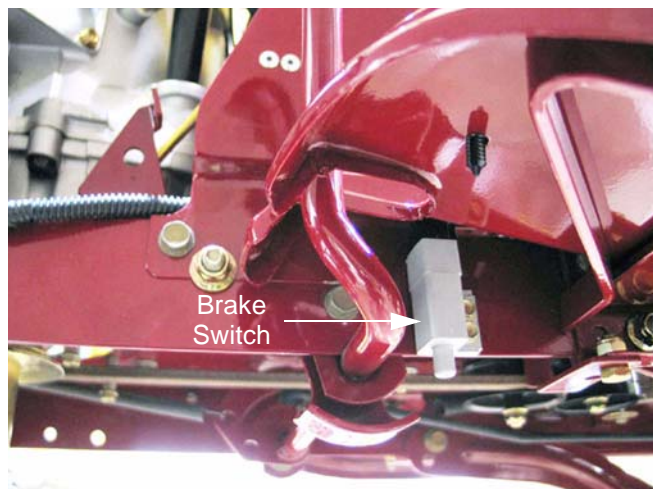

Figure 7.10
- The brake switch is mounted the left side of the frame. See Figure 7.10.
- A normally open (NO) set of contacts is in the starter inhibit circuit. When the clutch / brake pedal is depressed, the contacts are closed, power coming from the key switch (key switch in START) through the orange wire is passed on to the PTO switch through the orange wire with black trace.
- A normally closed (NC) set of contacts is in the safety shut-down circuit. A circuit is completed from the ignition module's primary windings to ground. The ground comes from the seat switch (if the seat is empty) through the yellow wire with black trace. If the brake pedal is up, that ground signal will pass through the brake switch to the ignition through the yellow wire.